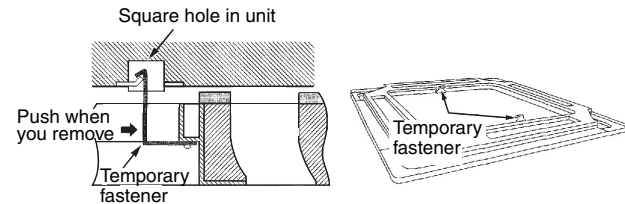
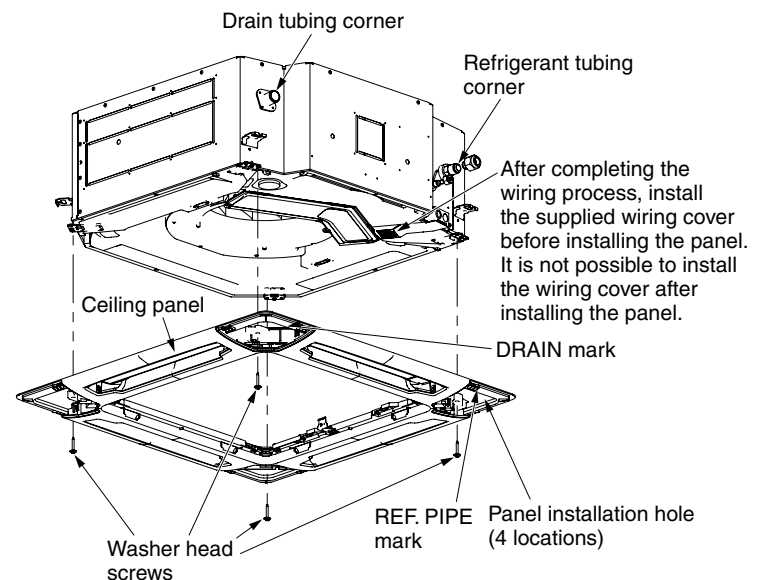

Fig. 3-20-1
Fig. 3-20-2
- (1) Insert the temporary fasteners (stainless steel) on the inside of the ceiling panel into the square holes on the unit to temporarily fasten the ceiling panel in place. (Fig. 3-20-1)
- To remove the ceiling panel, support the ceiling panel while pressing the temporary fasteners toward the outside. (Fig. 3-20-1)
- (2) Align the panel installation holes and the unit screw holes.
- (3) Tighten the supplied washer head screws at the 4 panel installation locations so that the panel is attached tightly to the unit. (Fig. 3-20-2)
- (4) Check that the panel is attached tightly to the ceiling.